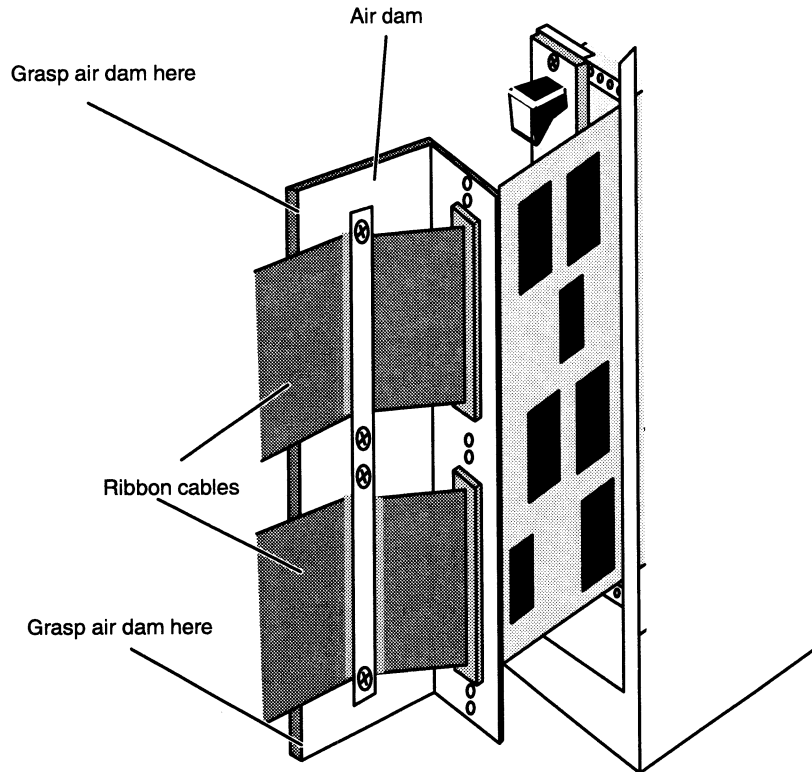

Figure D-3 Releasing a Model 7411-K Option Board
4. Grasping the air dam firmly by its edges, release the board from the backplane connectors by pulling *straight out*. Apply firm and steady pressure, but do not pull from side to side or attempt to shake the board free. You will feel the board release as the connector pins leave the backplane connector. Refer to Figure D-3.